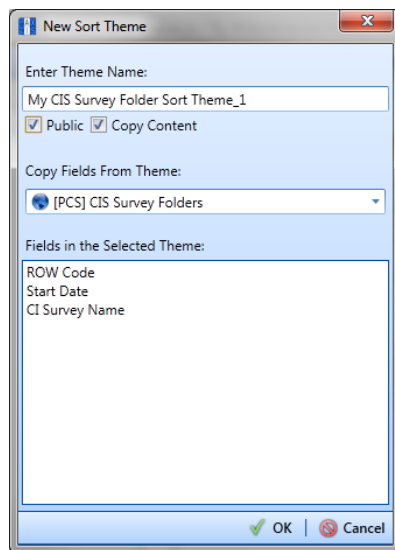

Figure 5-14. New Sort Theme
- 6 Click the  **Add** button to open the *New Sort Theme* dialog box (Figure 5-14).